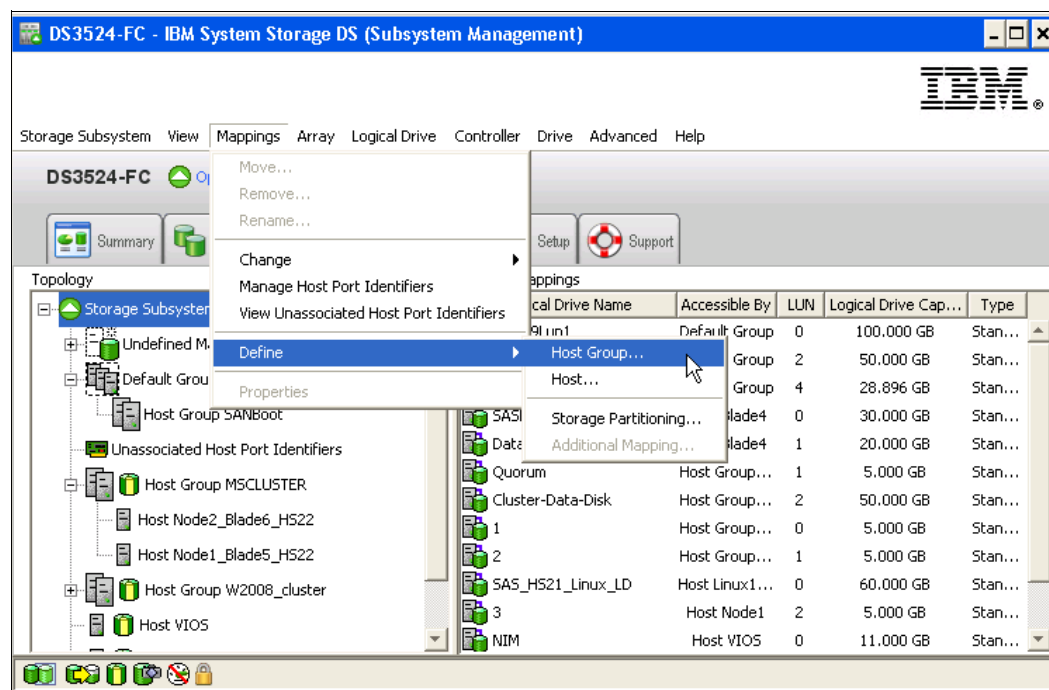

Figure 19-2 Define Host Group
3. Define a host group by selecting the **Mapping** menu in Mapping tab as shown in Figure 19-2 on page 558. Specify a name for the host group and follow the wizard's instructions to complete the task. In our example, we named our host group MSCluster.